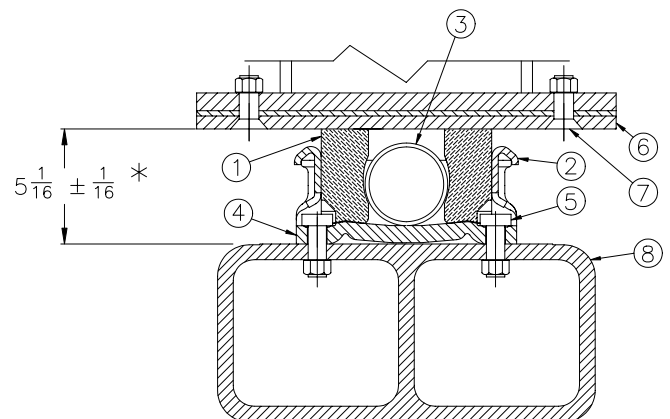

Figure 5. 656-CR Side Bearing Arrangement
Body side bearing wear plates ⑥ (or wedges) must conform to AAR Standard S-235-83. Wear surface must be smooth. Any weld spatter, heavy rust, or surface projections must be removed by grinding. Fastener heads ⑦ (see Figure 5) must be flush or recessed with the wear plate surface. Fasteners must be securely tightened.